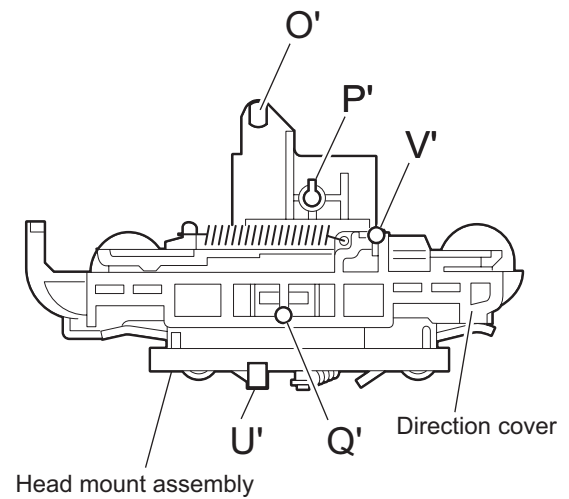

Fig.11
3.5.6 Reattaching the Play/ Record & Clear head (See Fig.11~13)
- (1) Reattaching the head mount assembly.
- b) Fit the bosses **O'**, **P'**, **Q'**, **U'** and **V'** on the head mount assembly to the holes **P** and **V**, the slots **O**, **U** and **Q** of the mechanism sub assembly (See Fig.11 to 13).